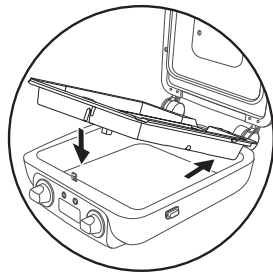

Fig. 3
- a. Insert the waffle plate tabs into the unit and press down. You will hear the plates click into place. (Fig. 3,4)
Plugin the waffle maker (Fig. 3, 4, 5)